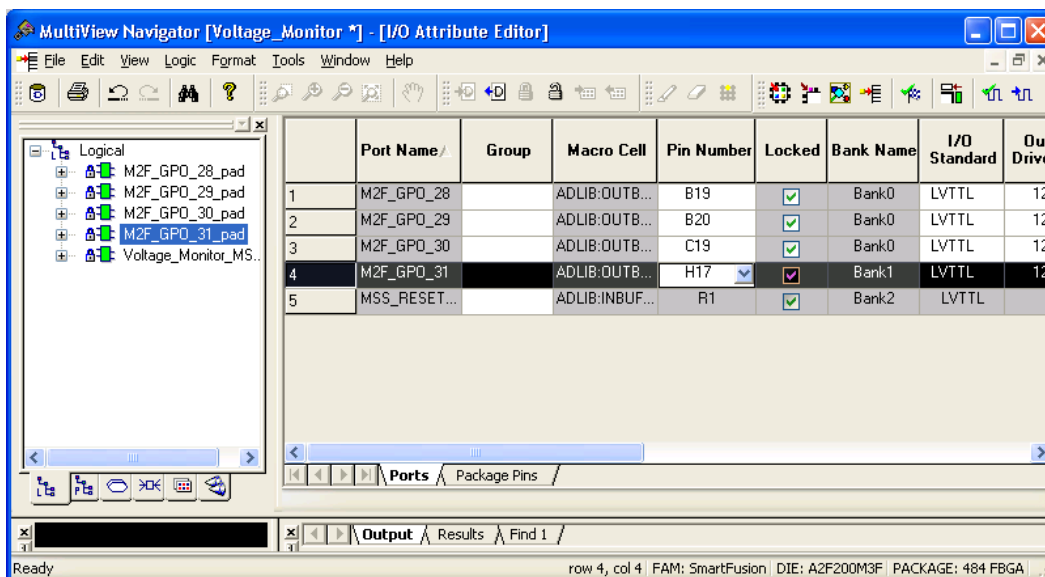

Figure 67 · MultiView Navigator GUI
2. Make the following pin assignments in **MultiView Navigator** window as shown in Figure 67 .